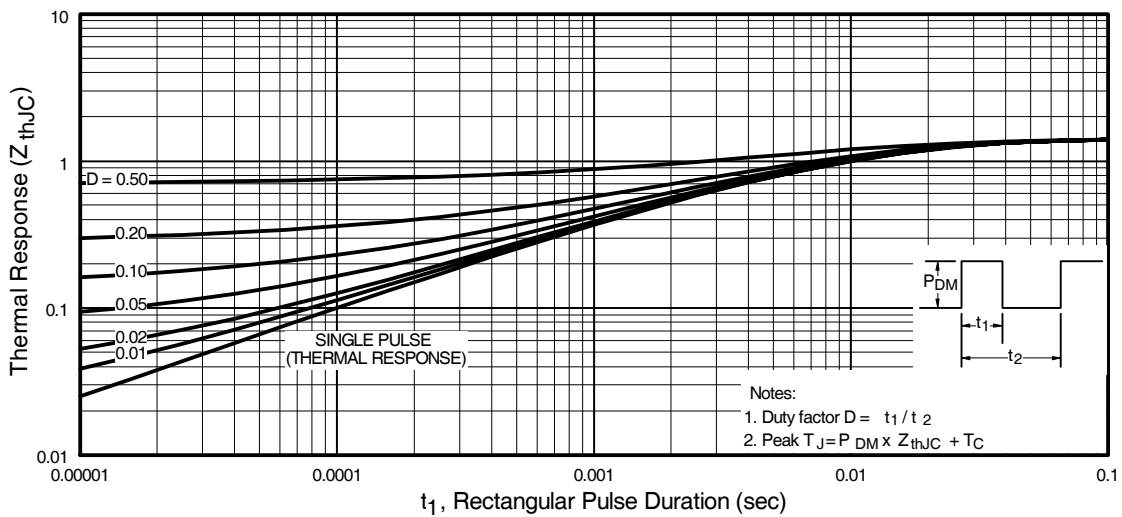

Fig 11. Maximum Effective Transient Thermal Impedance, Junction-to-Case
- ① Repetitive rating; pulse width limited by max. junction temperature. (See fig. 11)
- ② $V_{DD} = 25V$, starting $T_J = 25^\circ\text{C}$, $L = 470\mu H$